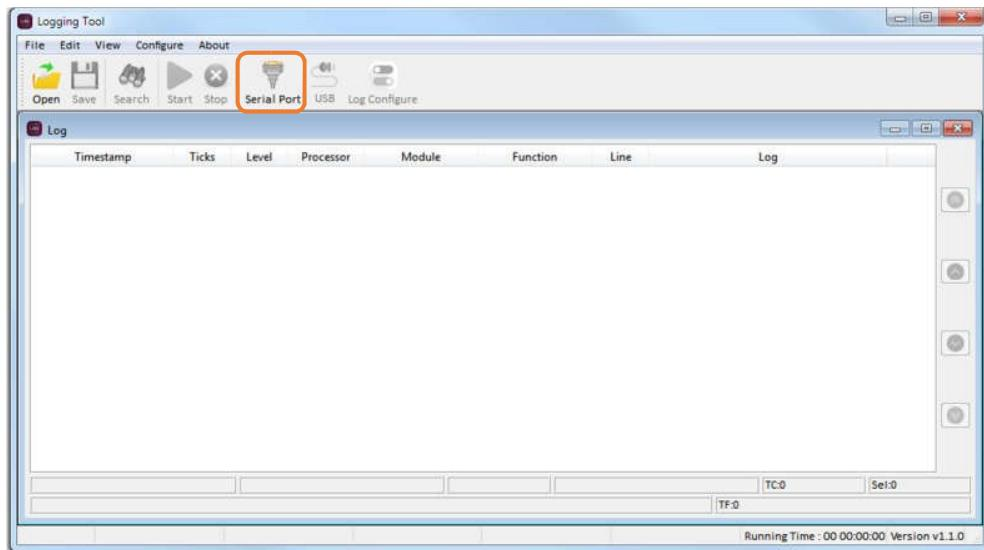

Figure 36. Serial Port Button
- 2) Click “Serial port” as shown in Figure 36.